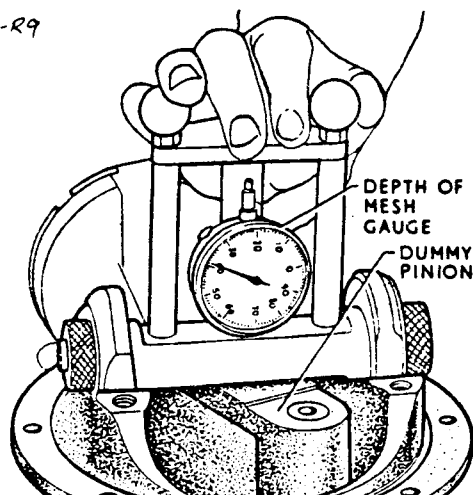

Fig. 9. MEASURING PINION MESH
16. To obtain the actual thickness of shim required it is necessary to add .10 in. (2.54 mm.) to the reading given by the gauge, i.e. a dial reading of 39 (as shown in Fig.9) would require a shim of .139 in.